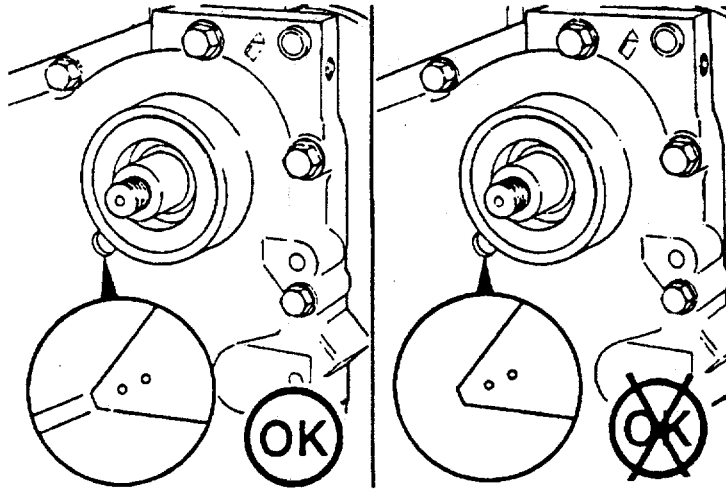

FIGURE 3-33. Gear Alignment.
- e. Ensure timing marks on the camshaft gear and accessory drive gear are aligned. (Figure 3-33).
If the crankshaft was rotated after the accessory drive was removed, rotate the crankshaft until the timing mark on the camshaft gear is visible in the inspection hole before installing the accessory drive assembly. See Figure 3-33.
- d. Check the alignment of the camshaft gear and the accessory drive gear timing marks through the inspection hole in the gear cover (Figure 3-33).